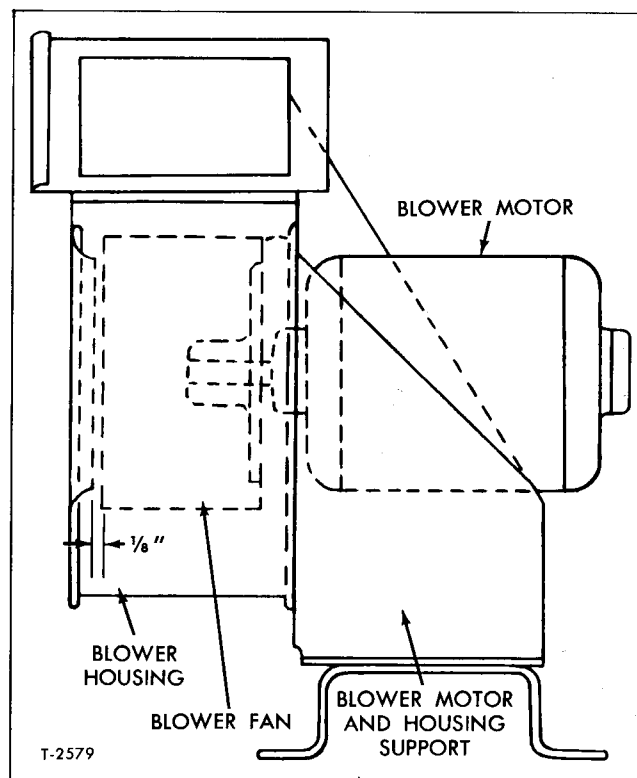

Figure 17—Blower Fan Adjustment
3. Adjust fan wheel on blower motor shaft for clearance of 1/8 inch between fan wheel and housing venturi (fig. 17). Tighten set screws.